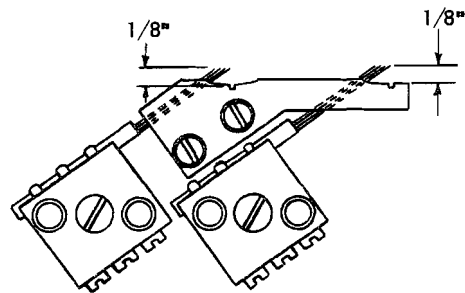

Figure 67. Carriage-Tape Brush Projection
1. Position the tape brushes for a 1" (+ $\frac{1}{32}$ ", -0") projection from the brush holder (Figure 67). Hold the range of adjustment as close as possible because of possible difficulties in timing the stop brushes to the E-1 emitter.